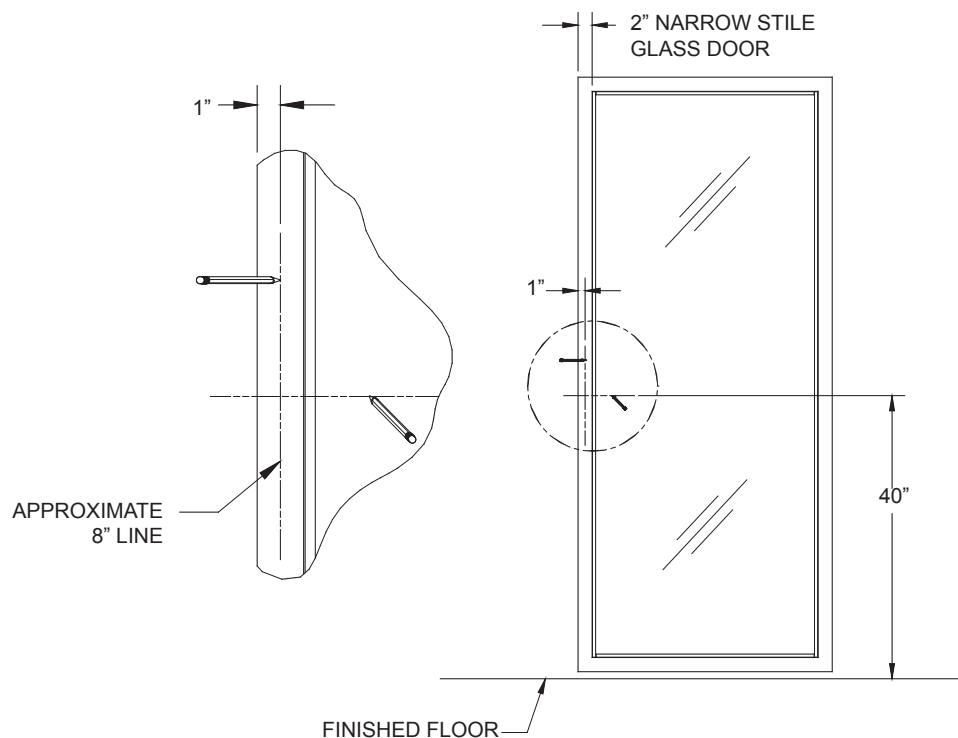

Fig. 1
1. Mark a line 1" from the edge of the door (See Fig. 1).